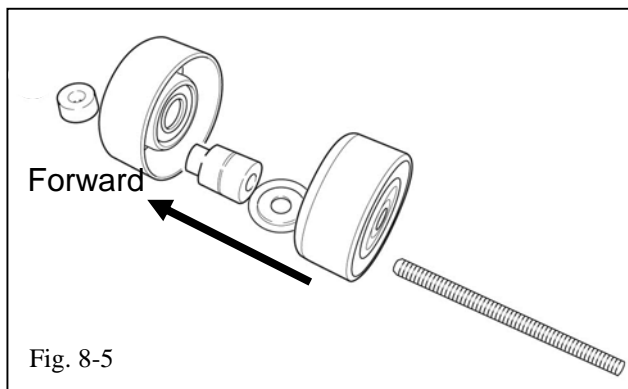

Fig. 8-5
- (e) Prepare Idler No. 1 (Fig. 8-5).
- (1) Install the other double ended M10 stud (C6) and snug it in place with a flat blade screwdriver.
- (2) Reinstall the original smooth pulley and thin step washer, the idler spacer with a groove (C10), the smooth idler pulley (C3), and the other short spacer (C9) (Fig. 8-5).
- (3) Temporarily install the M10 nut (C7) finger tight.